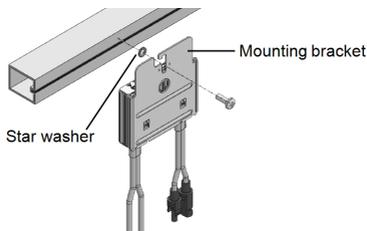

Figure 3: Power Optimizer installation and grounding using a star washer
1. Determine the Power Optimizer mounting location and use the Power Optimizer mounting brackets to attach the Power Optimizer to the support structure (See *Figure 3*). It is recommended to mount the Power Optimizer in a location protected from direct sunlight. For frame-mounted Power Optimizers follow the instructions supplied with the optimizers, or refer to [https://www.solaredge.com/sites/default/files/installing\\_frame\\_mounted\\_power\\_optimizers.pdf](https://www.solaredge.com/sites/default/files/installing_frame_mounted_power_optimizers.pdf).